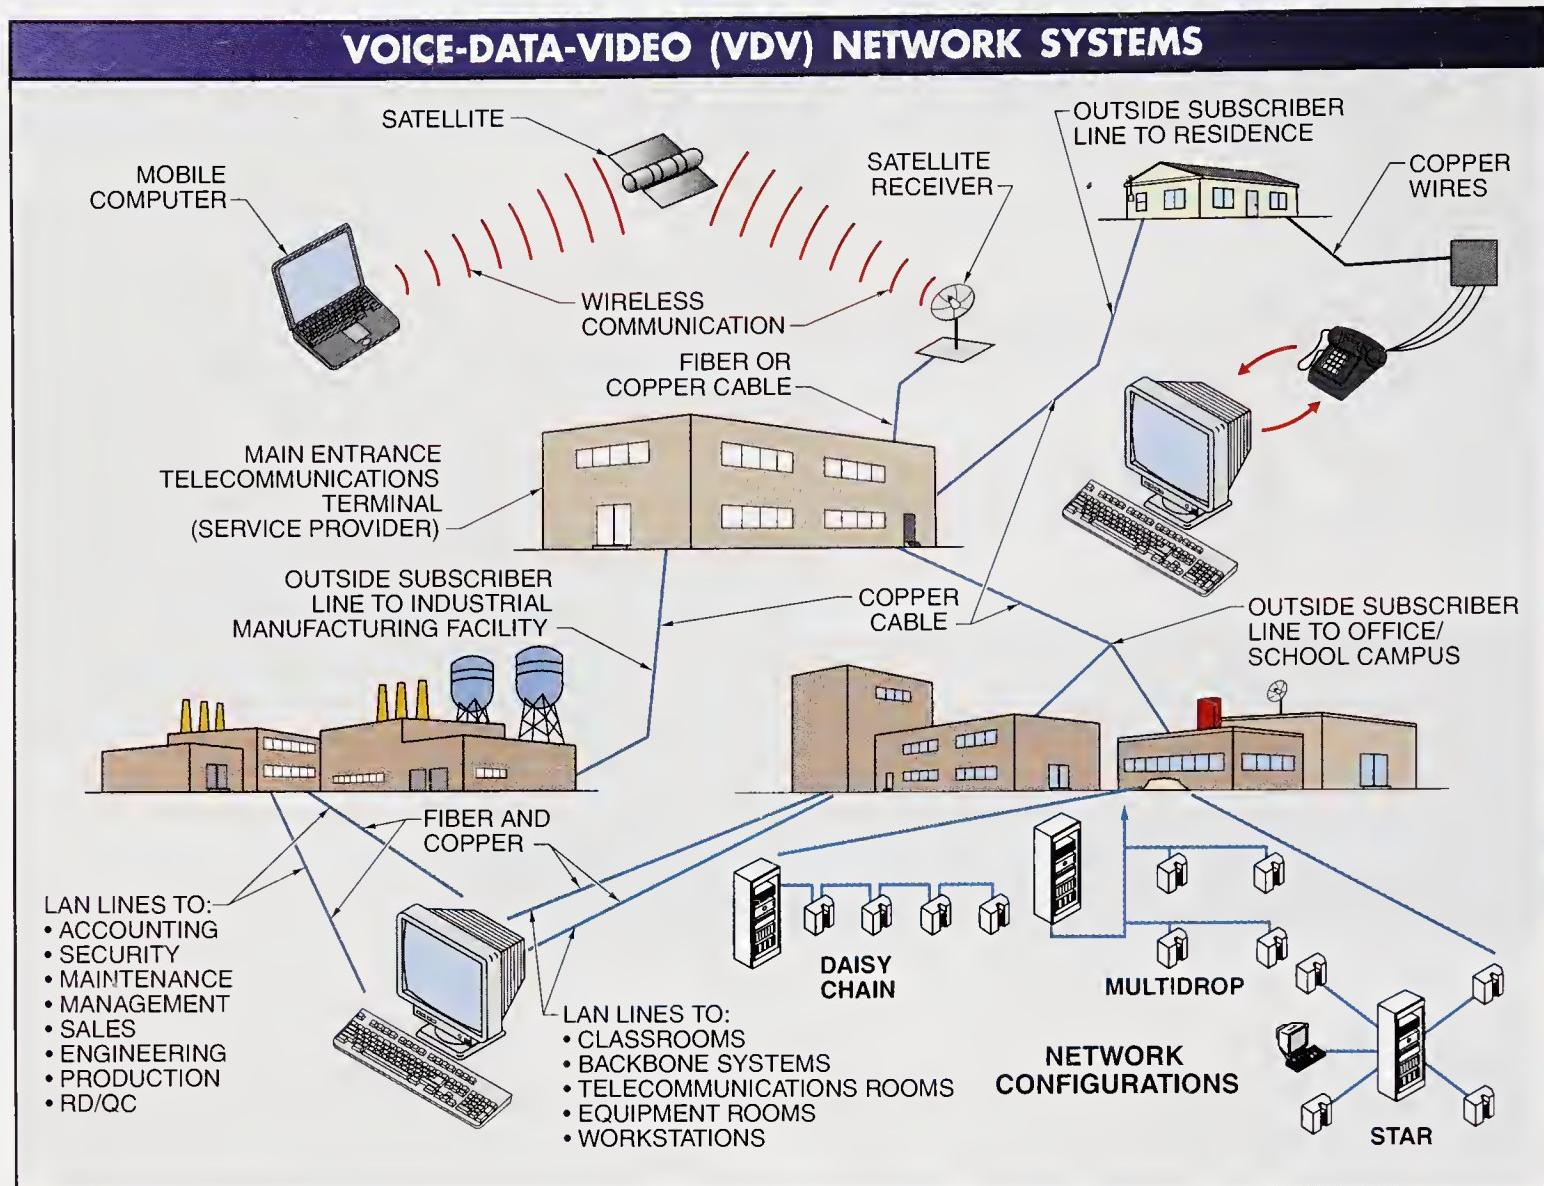

Figure 3-1. VDV communication networks utilize copper and fiber optic cables, and wireless connectivity throughout the entire system.
- To be able to move VDV communication to points along the network using methods other than copper wires. VDV communication using means other than copper wires has allowed the growth in the use of fiber optic cable and wireless communication. See Figure 3-1.